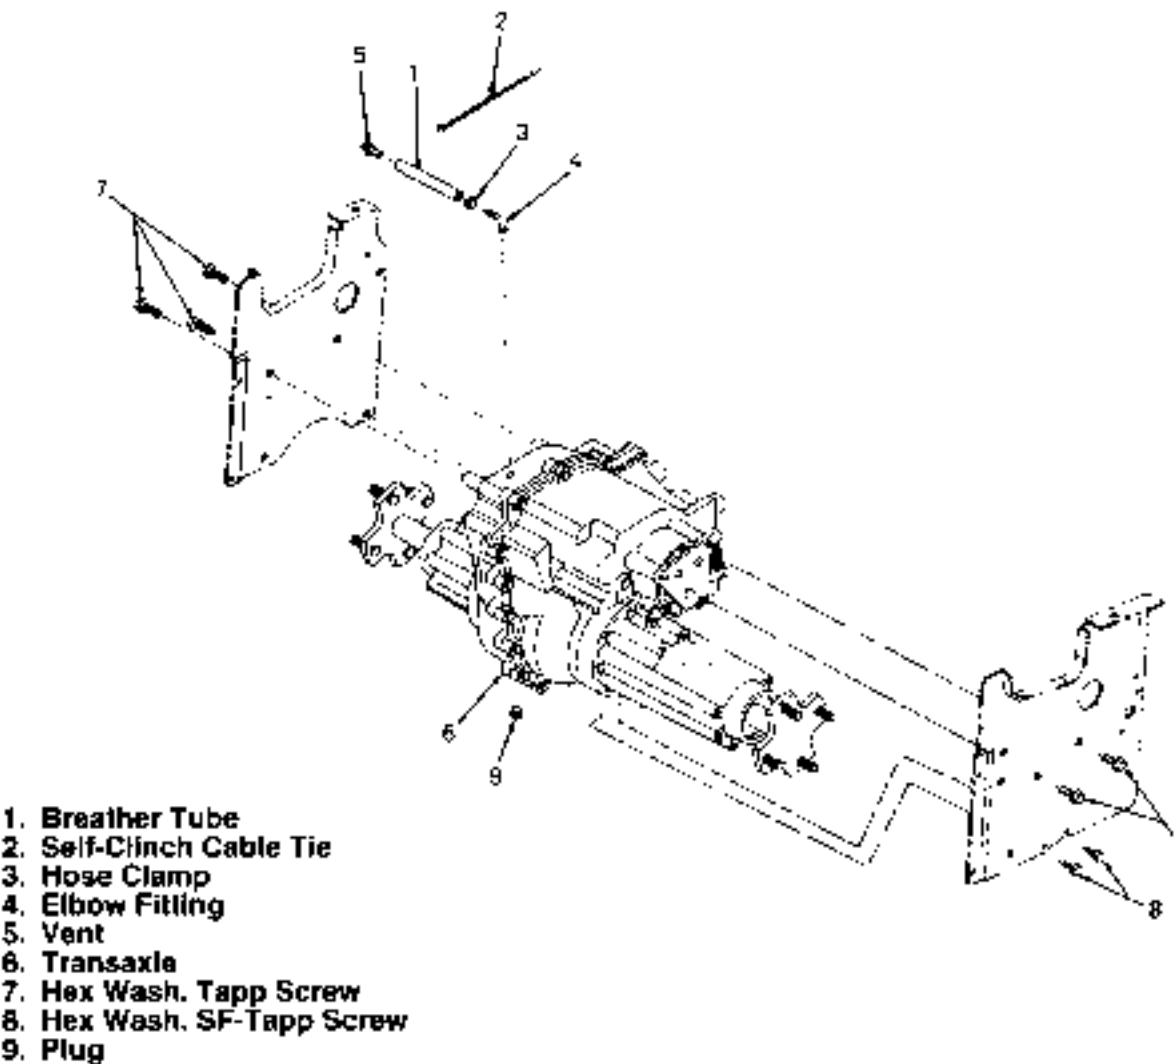

Figure 5-32. Transaxle Removal (All Models).
14. Remove the four screws (7 and 8, Fig. 5-32) securing the right side of the transaxle to the frame.
15. Remove the three screws (7) securing the left side of the transaxle to the frame.
16. Cut and remove the self-clinch cable tie (2, Fig. 5-32) securing the transaxle breather tube to the tractor frame.
2. Aligning the mounting holes of the frame and the transaxle, secure the left side of the transaxle to the frame using the three previously removed screws (7).
7. Secure the transaxle breather tube to the tractor frame using a new self-clinch cable tie (2. Figure 5-32). Do not over tighten the cable tie.